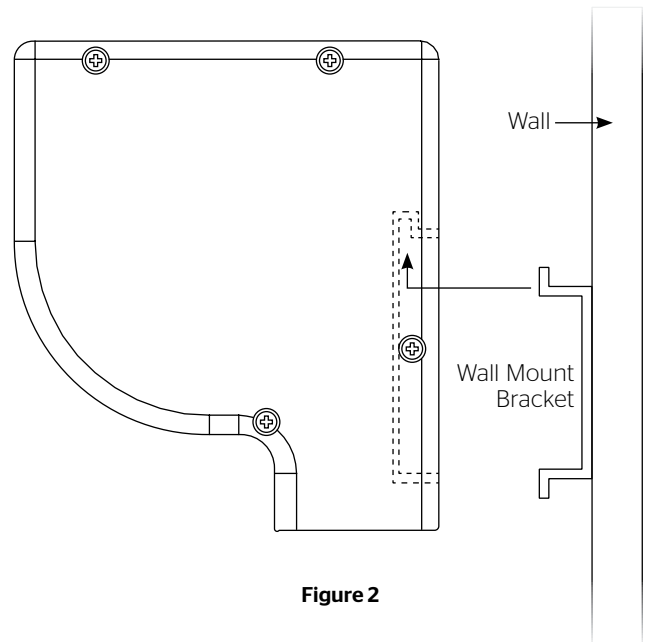

Figure 2
2. Secure the wall mount bracket to the wall at the desired height. The wall mount bracket should be fastened to the wall studs or some reinforcement within the wall. Concrete or brick walls require special fasteners and anchors. Allow at least 2-3/8" above the wall mount bracket to be able to position the case on the bracket (Figure 2).
4. Hang the screen case on the wall mount bracket as shown in (Figure 2). Be sure the case is fully seated on the bracket.